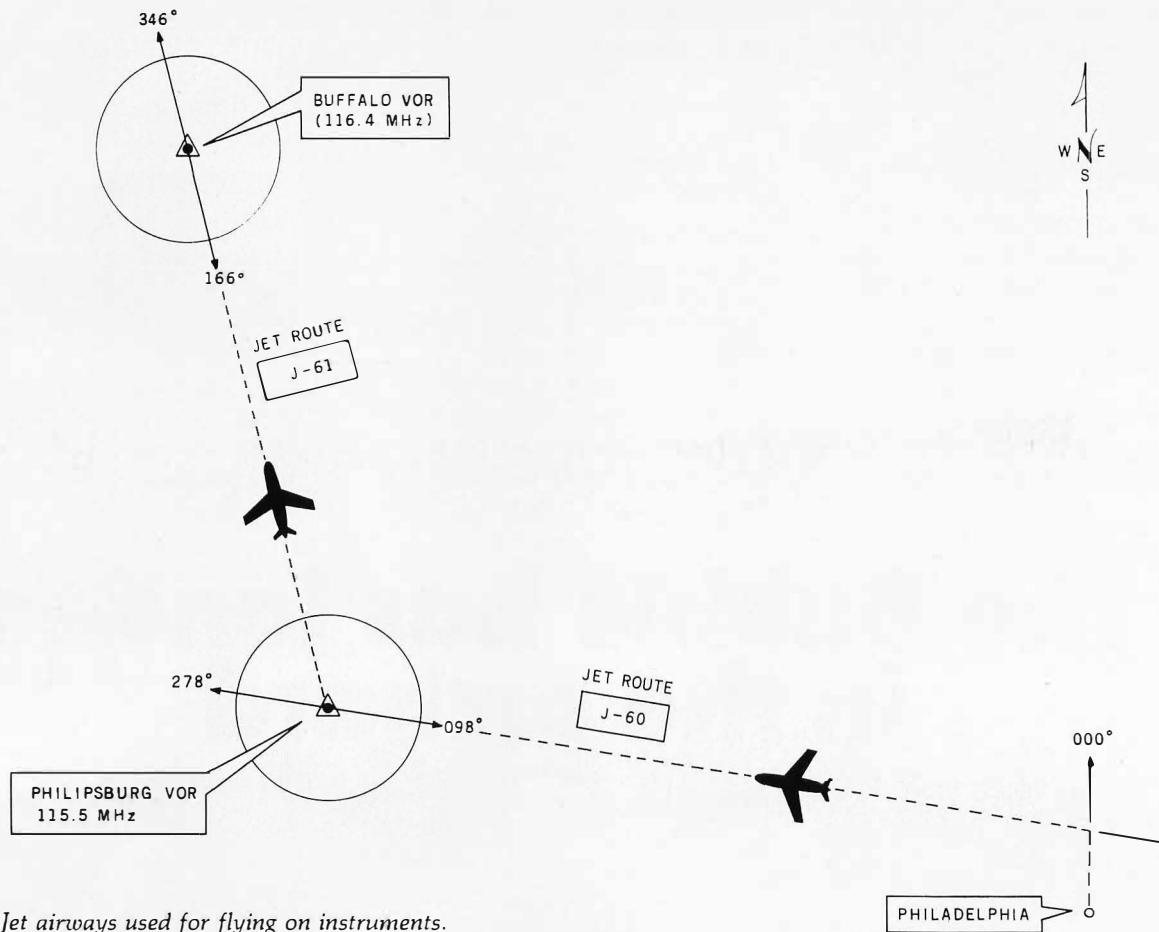

Figure 4: Jet airways used for flying on instruments.
- fly toward Philipsburg, Pennsylvania along jet route J-60 (as shown in figure 4)